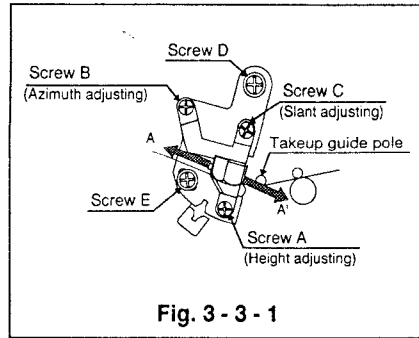
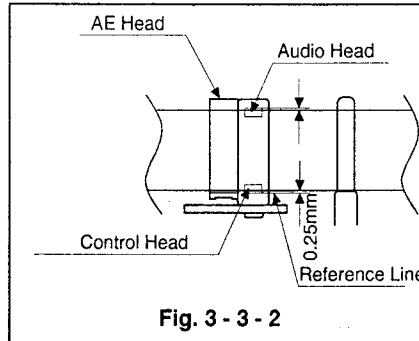

Fig. 3-3-1
Fig. 3-3-2
- ① If the height of the CTL head is different from the specified-value in Fig. 3-3-2, adjust the height by the adjusting screw A.
- ② If adjusting screw A is moved, repeat the procedure in Item 3-3-1 to adjust the A/C head Slant.
- ③ Connect the oscilloscope to the audio output terminal and set the VCR to the playback mode.
- ④ Playback the standard tape. [PM6KH3 : 859C339O30]
- ⑤ Turn adjusting screw B to adjust azimuth so that the audio output level is maximum. Set the scope for an amplitude of 5 divisions.
- ⑥ After the adjustment of ⑤, pull out the screw driver and check if the audio output level is 4.6 divisions or more, when the maximum level (audio output) of ⑤ was set for 5 divisions.
- ⑦ If the audio output level is below the specified value, repeat the procedure ①~⑥.
- ⑧ Push the A/C head to the right and left (in the direction of A and A' in Fig. 3-3-1) and the release the A/C head. Check that the audio output level does not change. (Do not push past the point where the audio output level is reduced by 3/4 of its maximum value.)
- ⑨ Set the VCR to the playback mode and check if the change of the audio output level is less than 2dB.
- ⑩ If the change is over 2dB, adjust the A/C head slant again and recheck.
- ⑪ If not satisfactory, replace the takeup tape guide complying with the following procedure and repeat this adjustment.